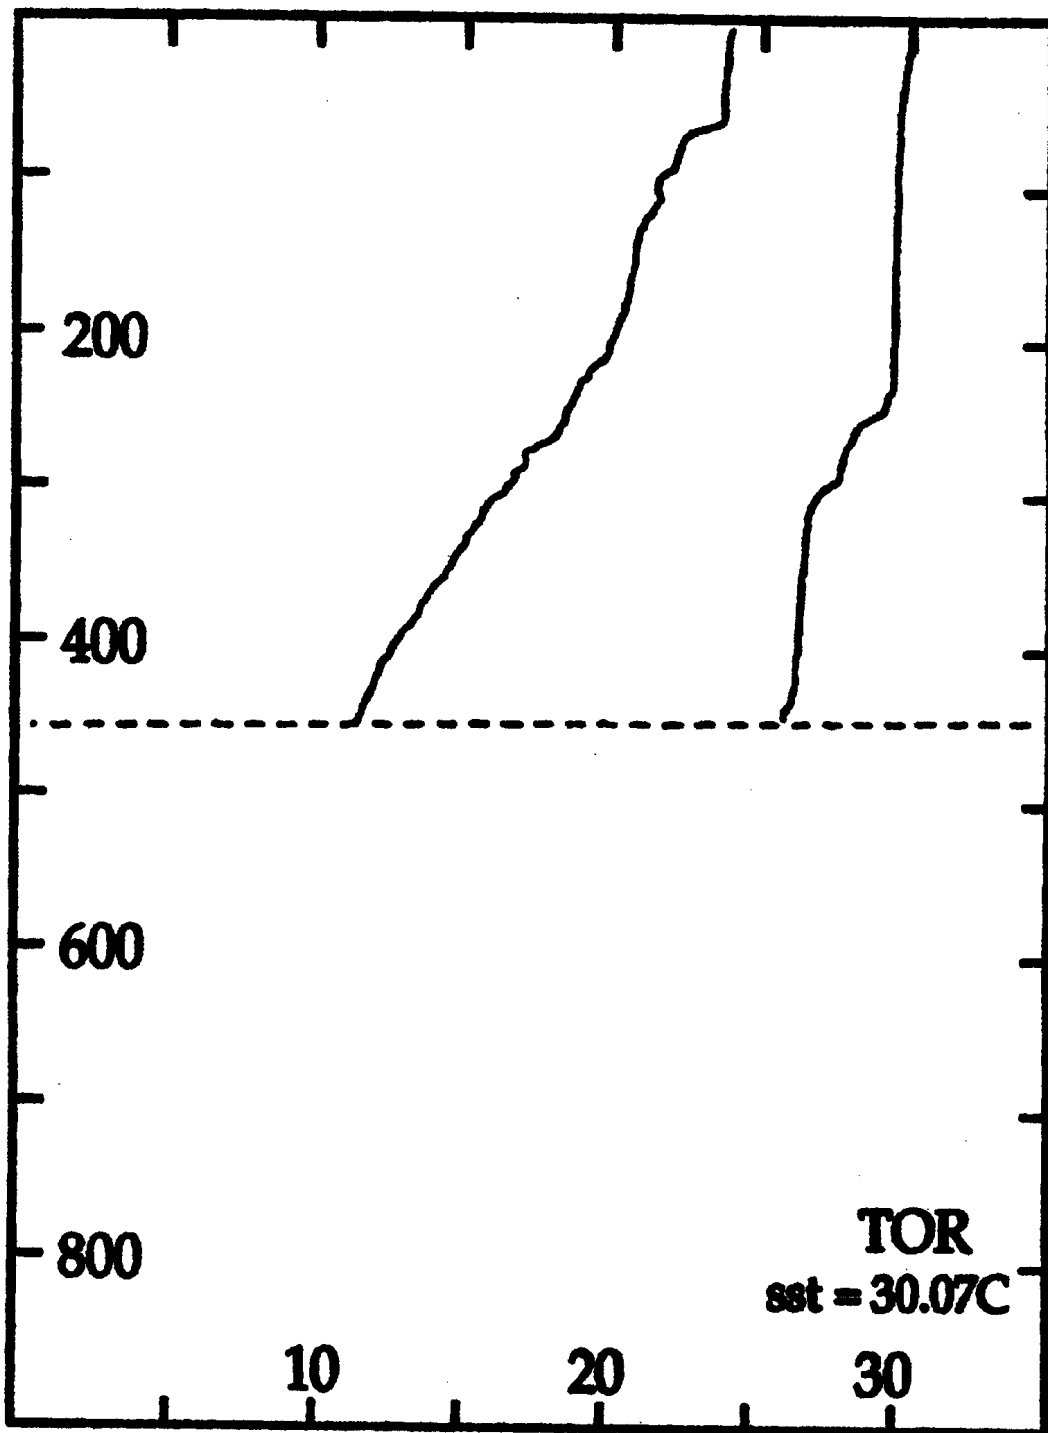

Figure 8j. Temperature Offset Reject (TOR)
- Fig. 8j:** The TOR flag is used if an unrealistic temperature difference can not be confirmed by a neighboring drop.